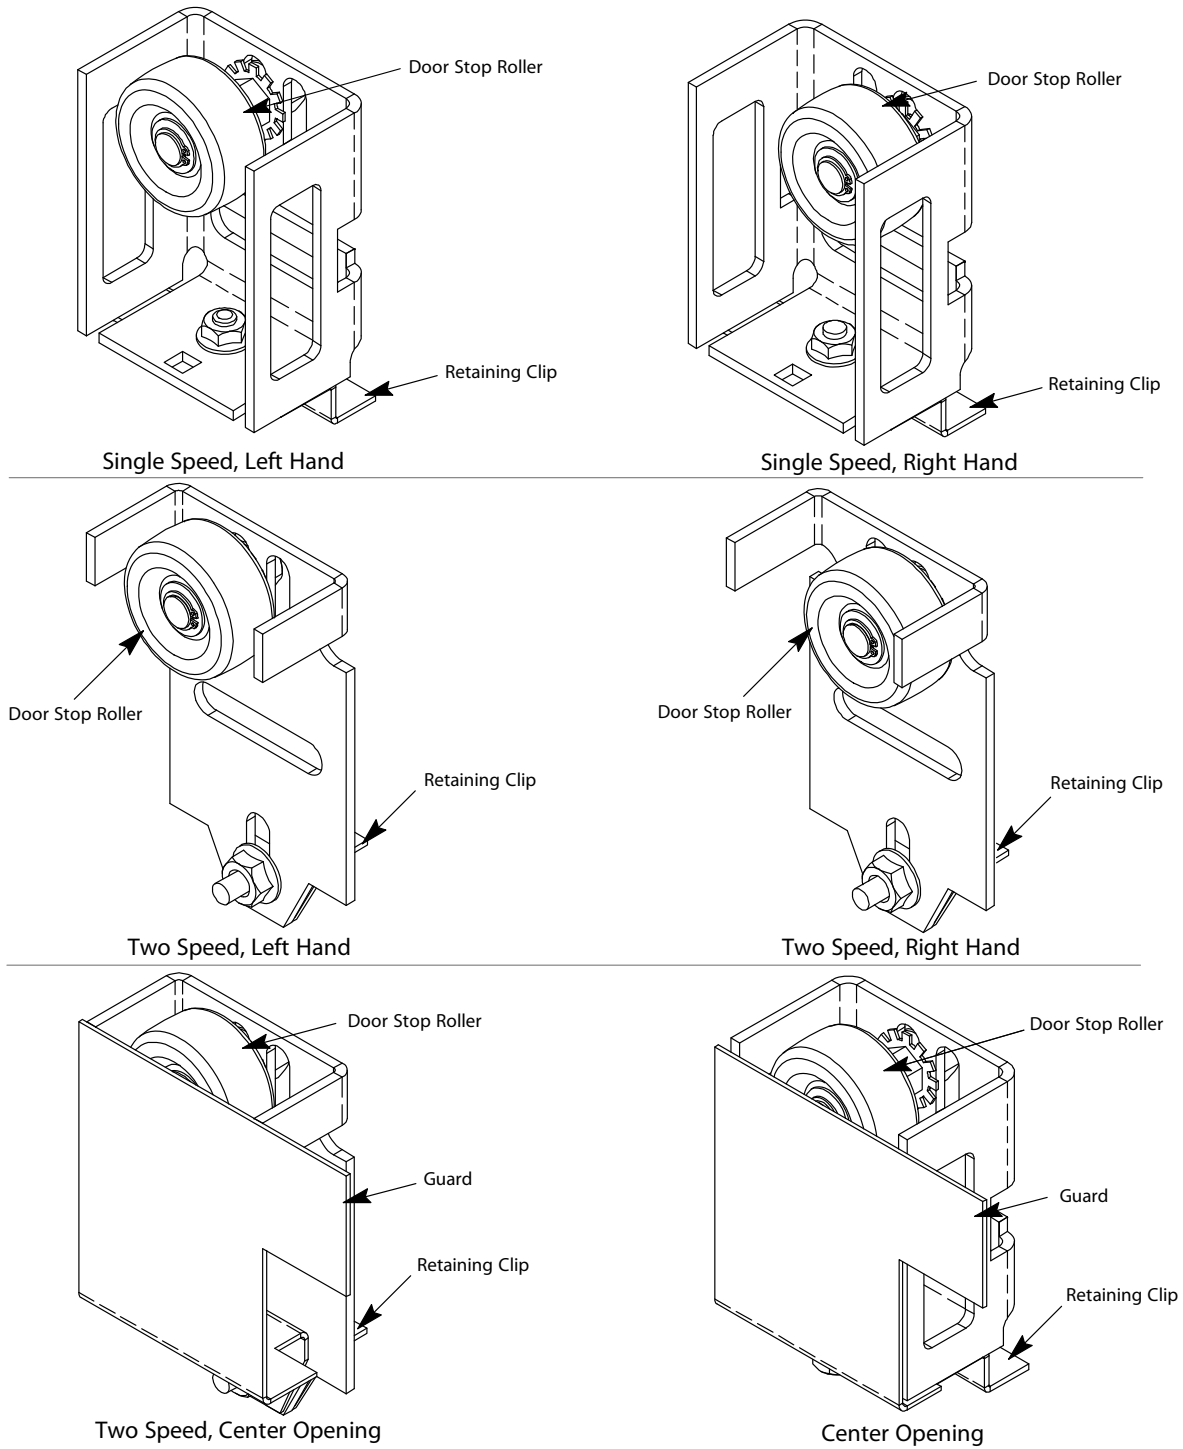

Figure 9 - Loosen Door Stop Retaining Clip Fasteners
1. Loosen the fasteners that are holding the door stop retaining clip on the door stop. See Figure 9.